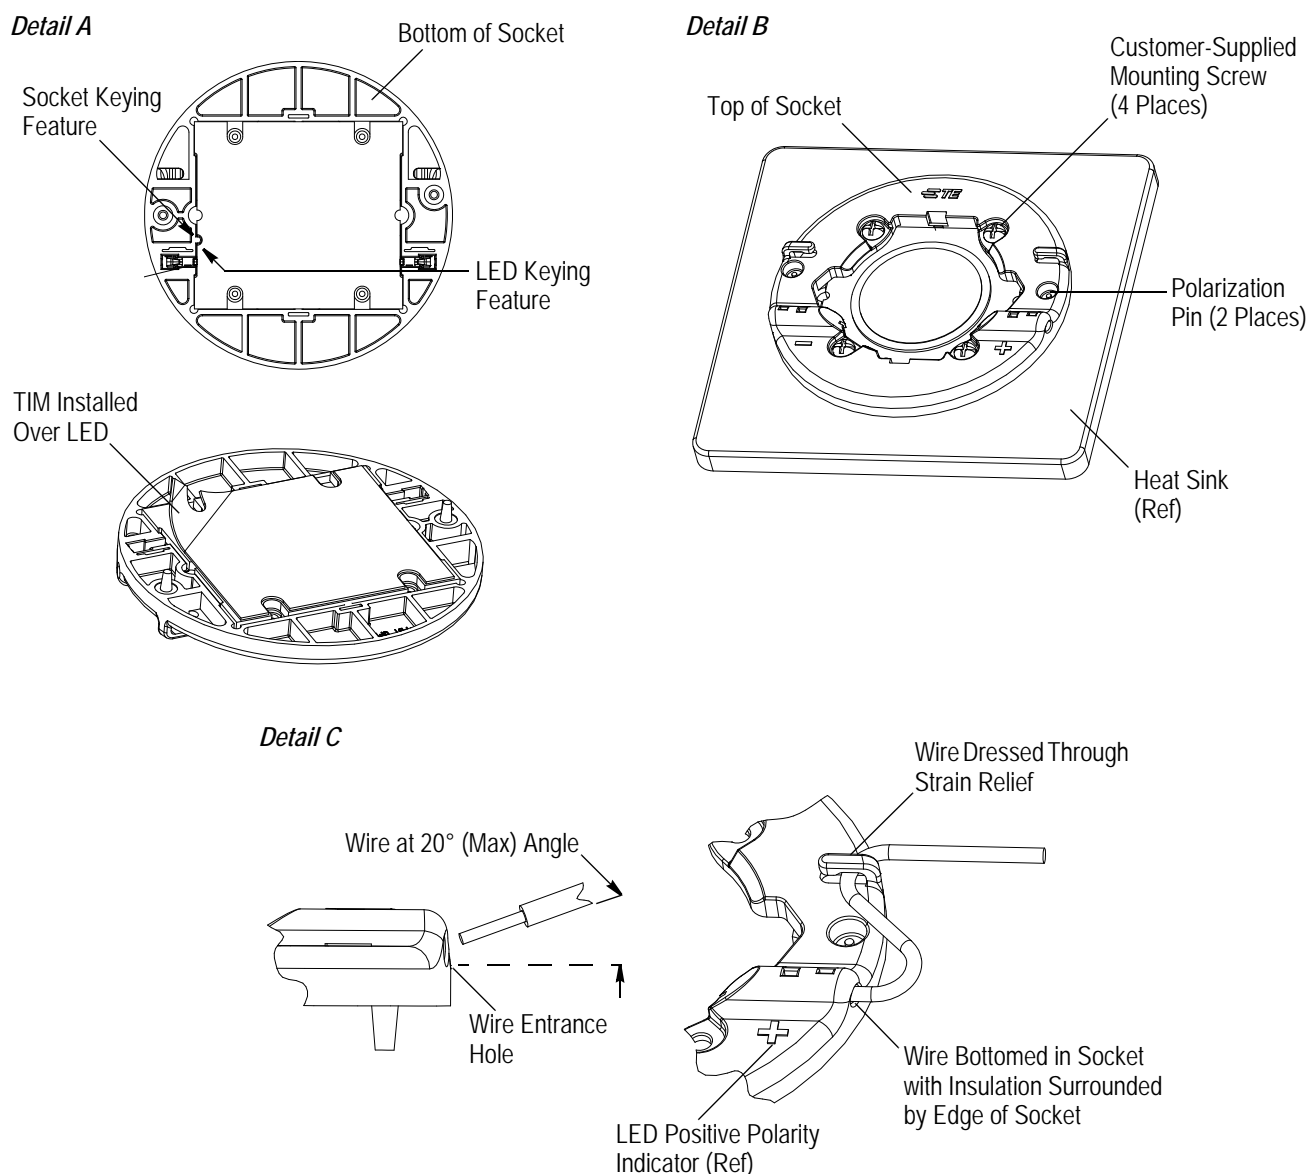

Figure 4
1. The keying feature of the LED must be aligned with the keying feature of the socket (located along the inside of the opening), then the LED must be positioned in the socket opening. See Figure 4, Detail A.
3. The socket must be placed, bottom side first, onto the heat sink so that the orientation pin and screw holes align with the mounting holes in the heat sink. The socket must be secured to the heat sink using 4 customer-supplied No. 4 or M3 x 6 (minimum length) screws. It is recommended to tighten the screws to a torque from 0.28 to 0.45 Nm [2.5 to 4.0 in.-lb]. See Figure 4, Detail B.
4. The LED polarity indicators must be observed when connecting the wires. Each wire must be pushed firmly inside its wire entrance hole using a maximum angle of 20 degrees until it is bottomed in the socket. After insertion, the wire and socket must meet the following requirements. See Figure 4, Detail C.